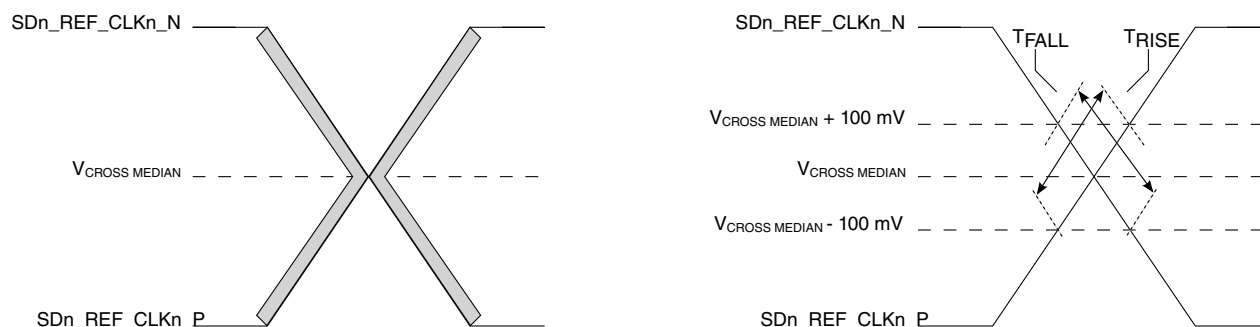

Figure 73. Single-ended measurement points for rise and fall time matching
11. Matching applies to rising edge for and falling edge rate for . It is measured using a 200 mV window centered on the median cross point where SDn_REF_CLKn_P rising meets SDn_REF_CLKn_N falling. The median cross point is used to calculate the voltage thresholds that the oscilloscope uses for the edge rate calculations. The rise edge rate of SDn_REF_CLKn_P must be compared to the fall edge rate of SDn_REF_CLKn_N, the maximum allowed difference should not exceed 20% of the slowest edge rate. See Figure 73.